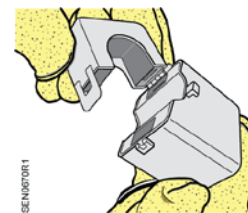

Figure 1. Open the CT.
1. Use a small, flat-blade screwdriver to open the CT by undoing the latch and pulling the CT open. See Figure 1.